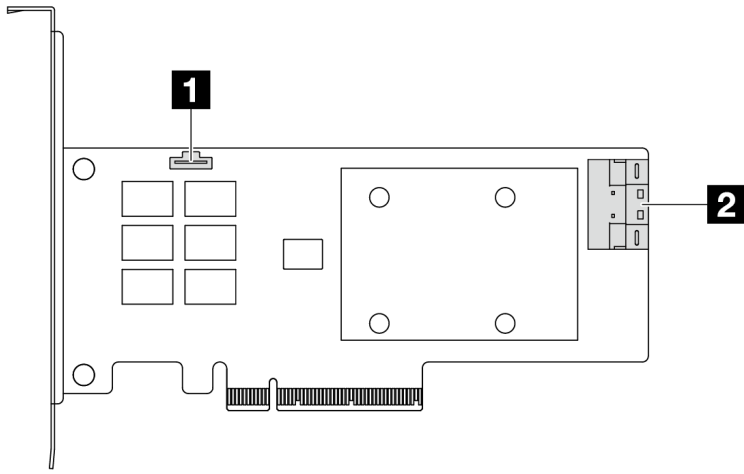

Figure 285. A Gen 4 8i SFF RAID/HBA adapter (one port connector)
- Figure 285 “A Gen 4 8i SFF RAID adapter (one port connector)” on page 316